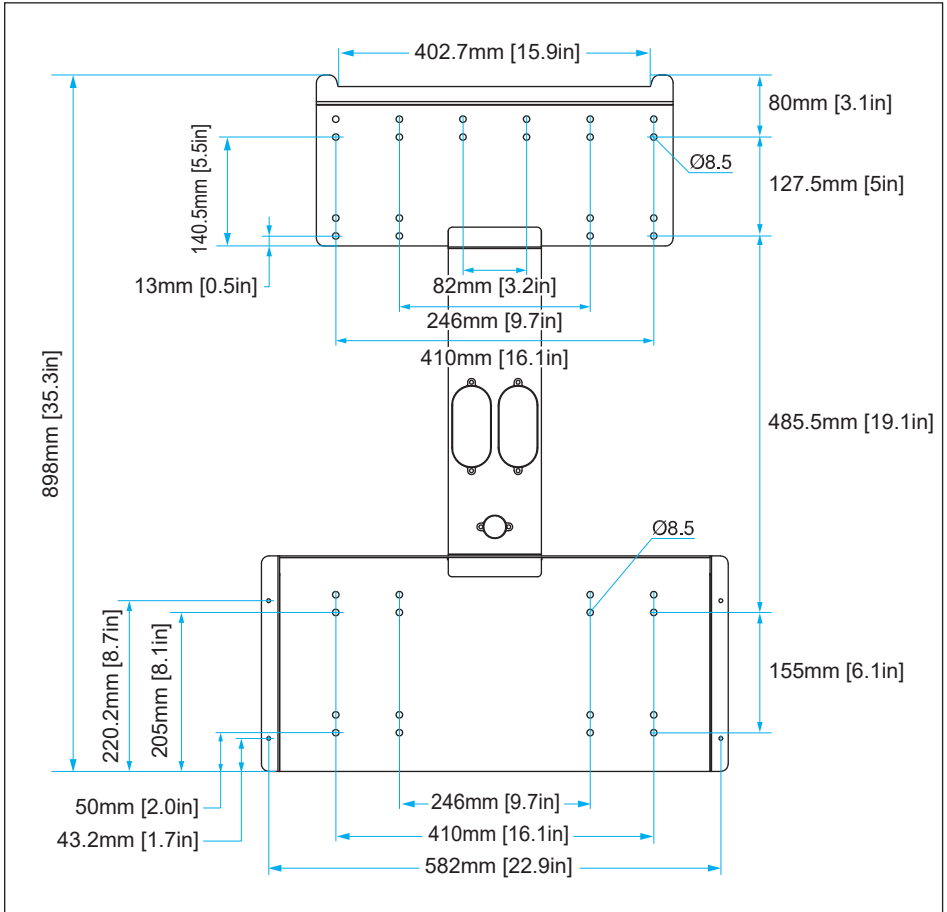
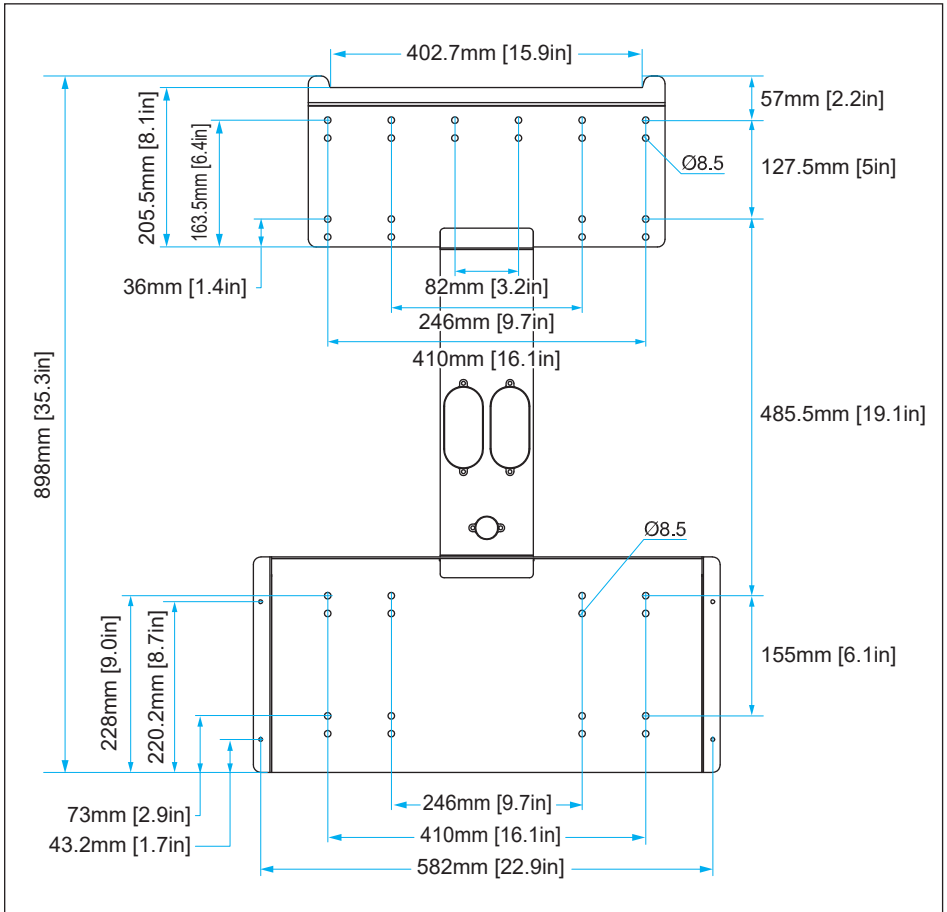
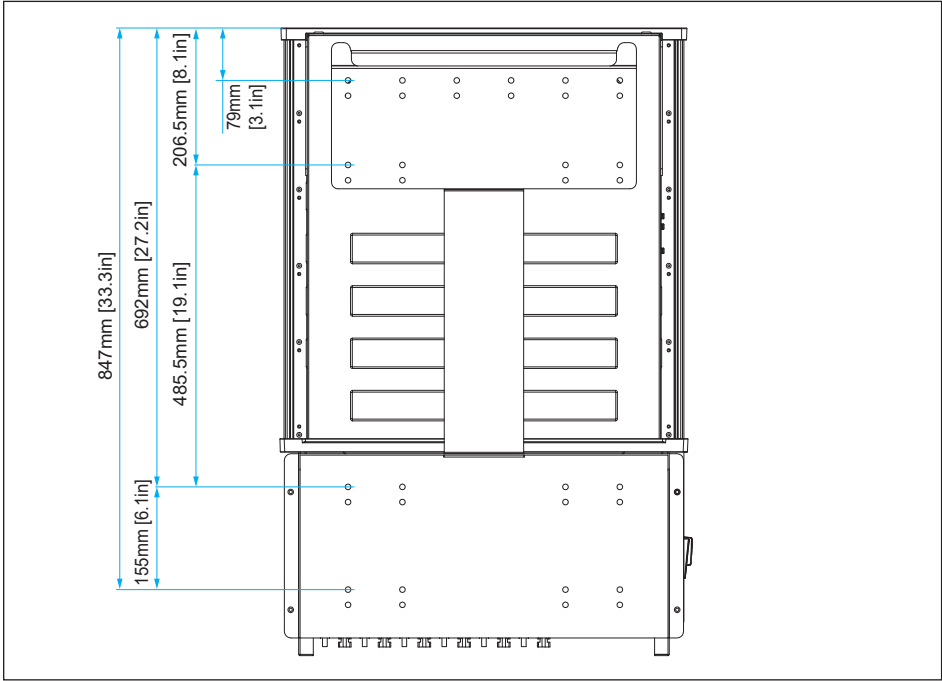
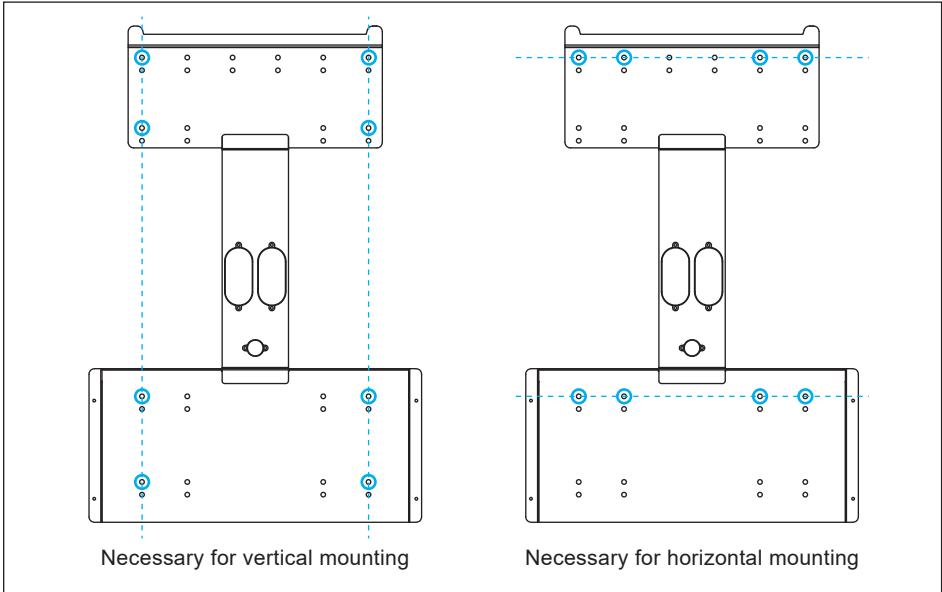

Figure 3-4: Mounting bracket dimensions for new models
Figure 3-7: Mounting bracket dimensions for old models
Figure 3-8: Mounting base plate and rear view for old models
Figure 3-9: Required position for at least 8 screws for old models
2. Orient the wall bracket (**Figure 3-4**, **Figure 3-5** or **Figure 3-7**, **Figure 3-8**) horizontally (perpendicular to the floor), with the large plate at the bottom, and mark required mounting hole locations per **Figure 3-6** or **Figure 3-9**.
4. Orient the mounting bracket (**Figure 3-4, Figure 3-5 or Figure 3-7, Figure 3-8**) squarely on the inverter stand, and ensure cross-supports are located in line with the mounting screws locations shown in **Figure 3-6 or Figure 3-9** (horizontal case) such that they can all be secured.
Mark required mounting hole locations per **Figure 3-6 or Figure 3-9**.
- Use a minimum of eight 5/16in (M8) screws to affix the mounting bracket to mounting surface. See **Figure 3-6 or Figure 3-9**.